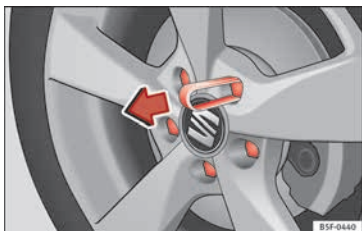

Fig. 67 Clip for removing the wheel bolt caps
- Fit the plastic clip (vehicle tools) over the cap until it clicks into place » Fig. 67.